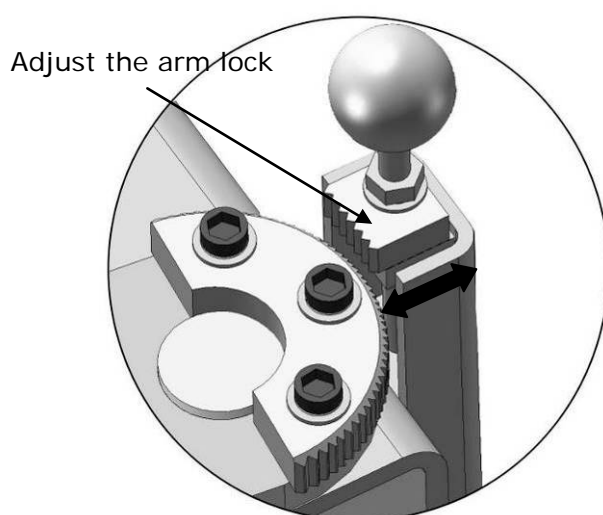

Fig. 24
3. Adjust the arm lock as arrow direction (See Fig. 24).